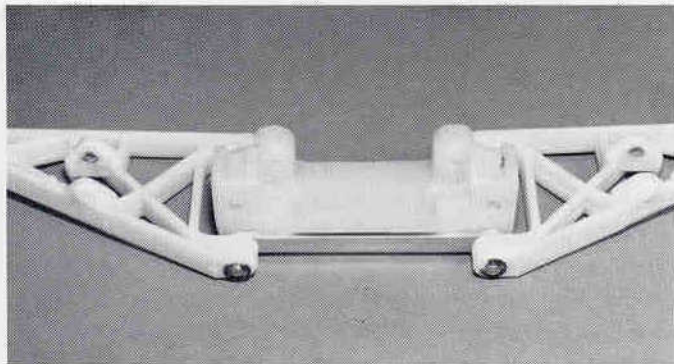

Fig. 13A
(1) Starting with the left A-arm, install the inner hinge pin through the back half of the A-arm and the #7207 front bulkhead. (2) Now line up the #7208 aluminum bulkhead support between the front side of the bulkhead and the front of the left A-arm (fig. 13A) and push the hinge pin the rest of the way through. (3) Secure the hinge pin with a #6299 E-clip on each end. (4) Now assemble the right side suspension the same way. Fig. 13A shows the front bulkhead assembly completed.